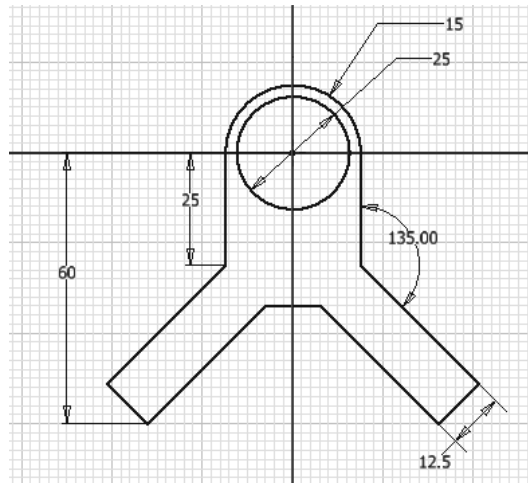

Figure 3-62 The final dimensioned sketch for Tutorial 4
1. Choose **Dimension** from the **Constrain** panel of the **Sketch** tab and select the circle. Place the diameter dimension below the arc dimension. Enter **25** in the **Edit Dimension** toolbar as and press ENTER. This completes the sketch for Tutorial 4. The final dimensioned sketch is shown in Figure 3-62.